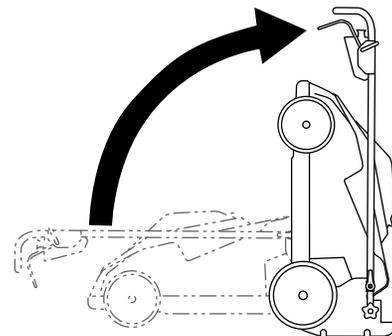

Figure 14
3. Fold the handle forward to the fully forward position as shown in Figure 14.
6. Lift the front of the machine by the handle and move it into a storage space (Figure 14).